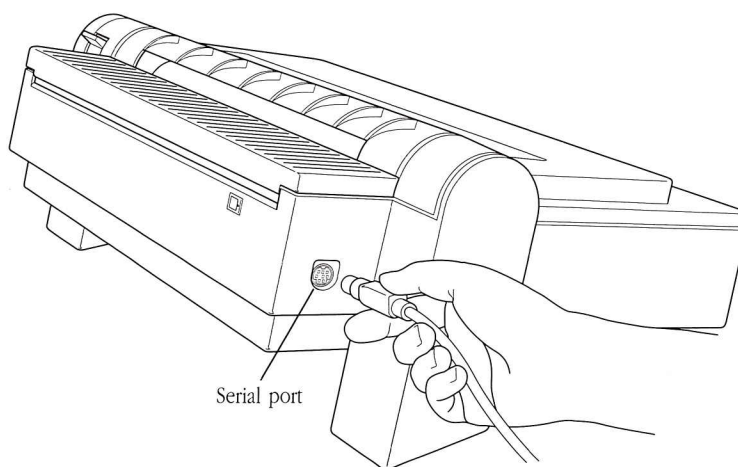

Figure 3-3 Plugging the printer cable into the printer
1. **Plug one end of the printer cable (both ends are the same) into the ImageWriter II's serial port. (See Figure 3-3.)**